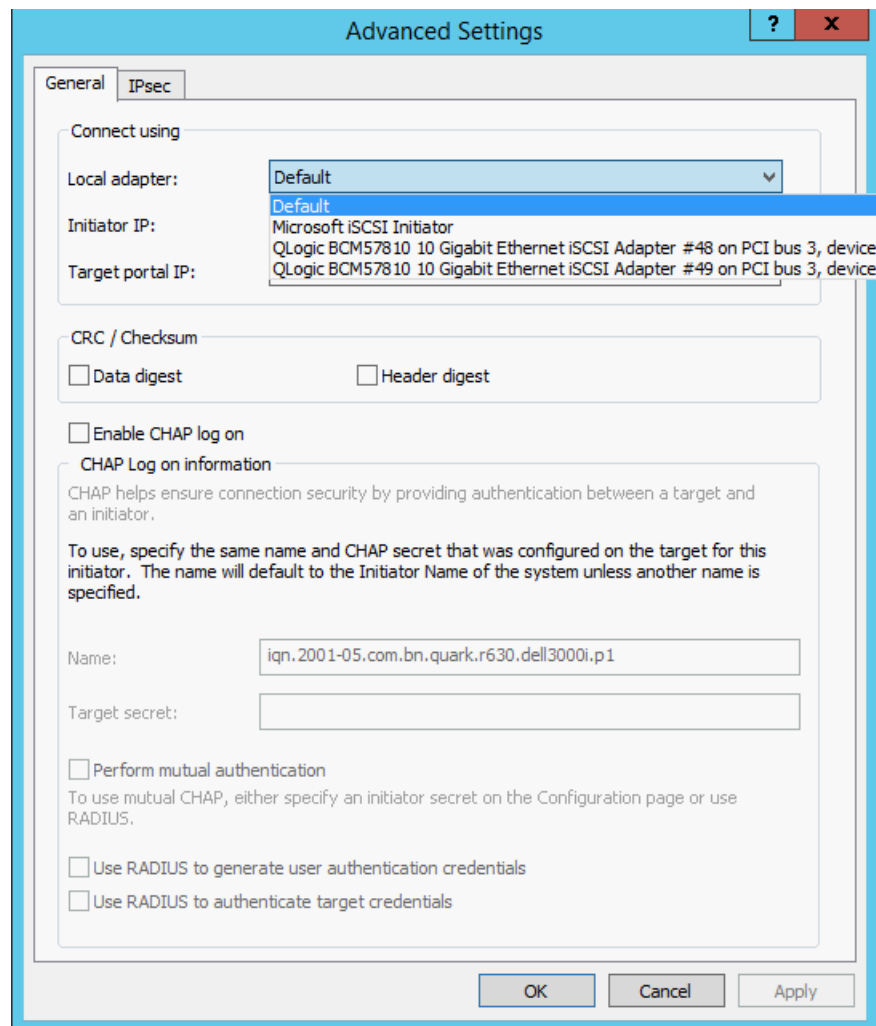

Figure 10-15. Advanced Settings: General Page, Local Adapter
11. On the Advanced Settings dialog box, General page, select the Marvell BCM57xx and BCM57xxx C-NIC iSCSI adapters as the **Local adapter**, and then click **OK**. Figure 10-15 shows an example.